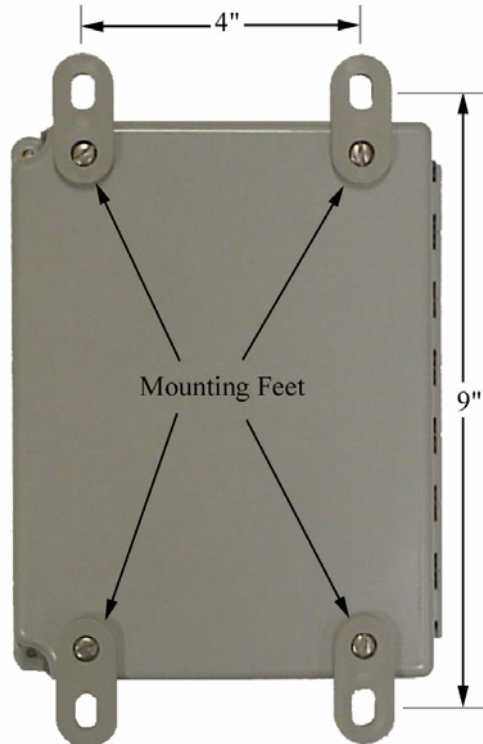

Figure 2-4 – Rear View of WRI Enclosure
- 2.4.1 From the rear of the WRI enclosure, attach the four mounting feet with the four screws as shown in Figure 2-4). The mounting feet must be installed so that the four screw heads are recessed and the hex protrusion on the mounting feet align with the hex recession on the enclosure.